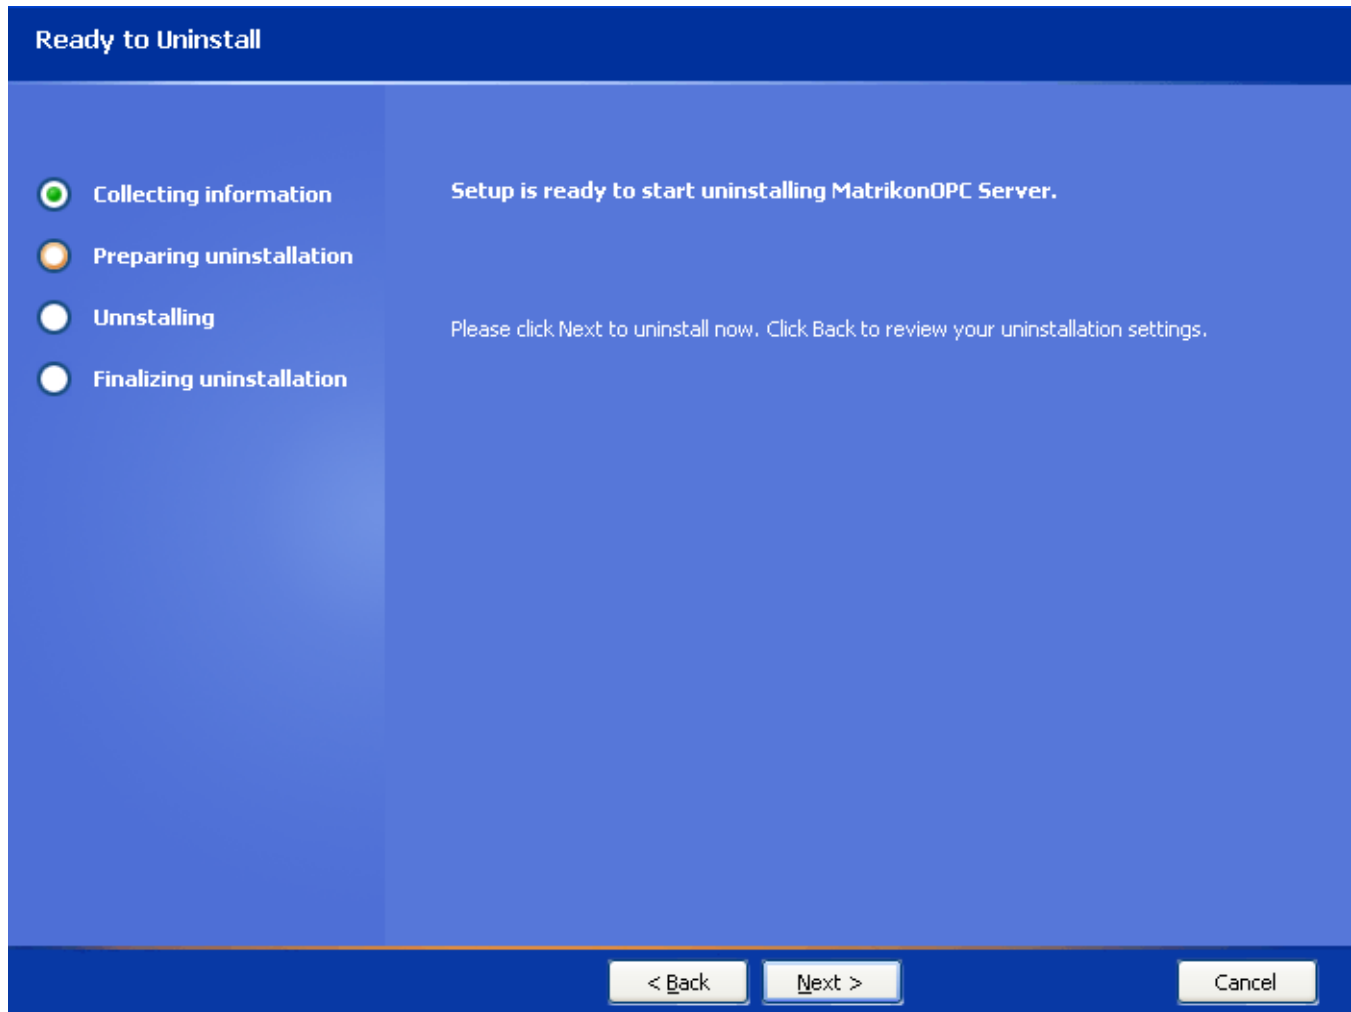

Figure 71 - Ready to Uninstall Screen
8. Click on the **Next** button. The **Ready to Uninstall** screen (Figure 71) is displayed.